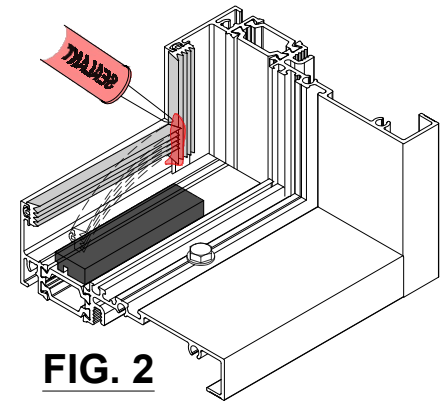

FIG. 2
- a. Place setting blocks at each corner, min 6" [150mm] inches from the corner or 1/8 points whichever is greater. DO NOT BLOCK WEEP HOLES. **See FIG 2.**